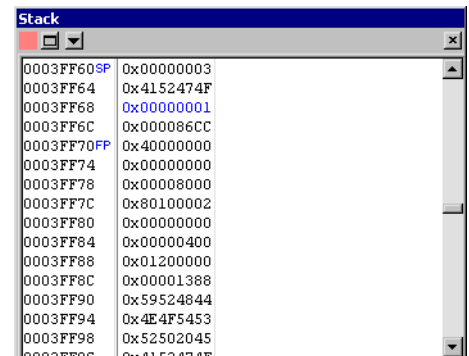

Figure 7-8 Viewing the stack
7. View the updated Stack pane, shown in Figure 7-8.
As you step through your code, the default stack pointer is used, shown in Figure 7-8 on page 7-23. You can specify an expression or a register to use as the stack pointer from the Stack pane: